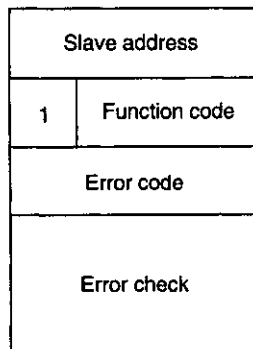

Figure 5.2 Response Message to an Erroneous Query Message
- 1) If there is a logic problem (such as a non-existent function code) with the contents of a query message, then the slave prepares and sends a response message like that shown in *Figure 5.2* without actually executing the query message.
- 2) The response message in *Figure 5.2* is comprised of the slave address, function code, error code, and error check. The slave address is the same as the query message slave address and the function code has a 1 in the most significant bit position. Error codes are listed in *Table 5.4*.